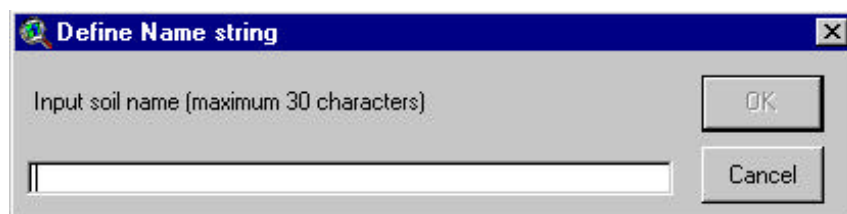

Figure 6.44
- iv. Double click the **Name** record. A dialog box will be displayed that allows the user to enter a soil series name (Figure 6.44).